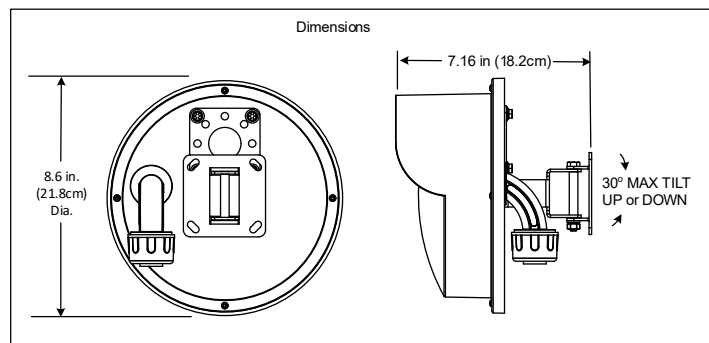

Figure 3.4 – Model MS30-POE-S Dimensions
12.0 Dimensions (Motion Sensor – Figure 3.4)